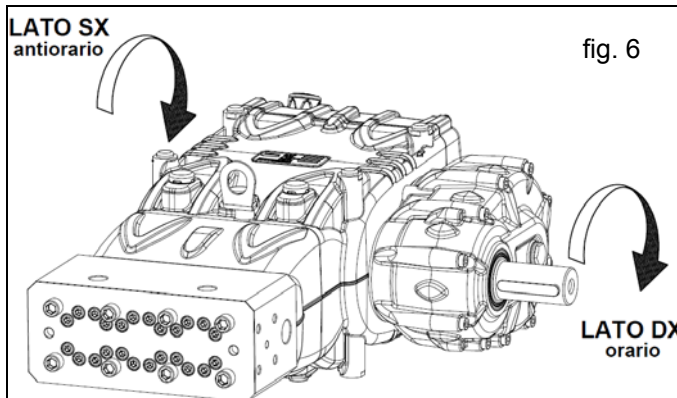

fig. 6
~ 4.8 litres for versions with a reduction gear in positions 1 and 4 (fig. 6)
- as per fig. 6 for versions with a reduction gear
Note. The versions shown in fig. 6 and 6a are right.